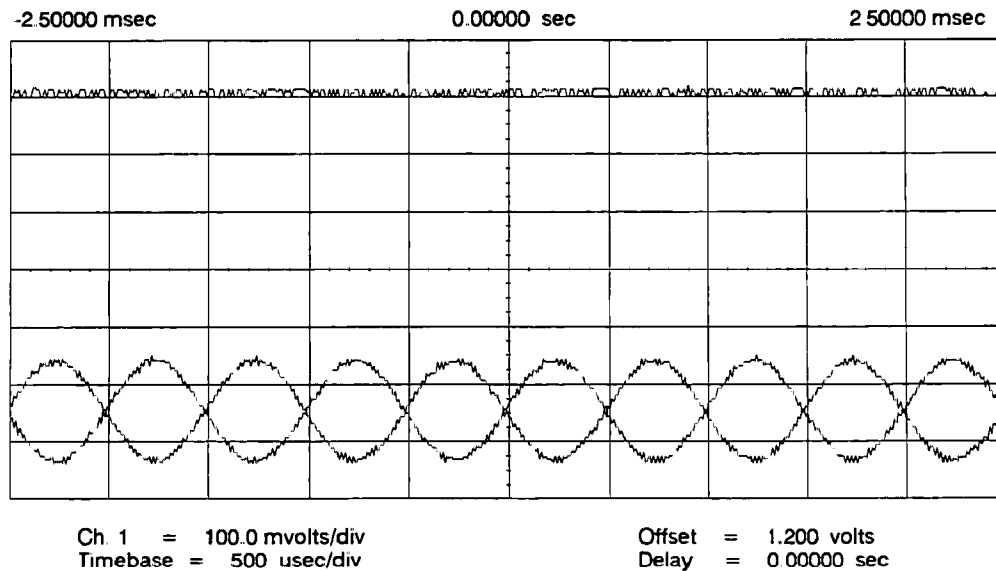
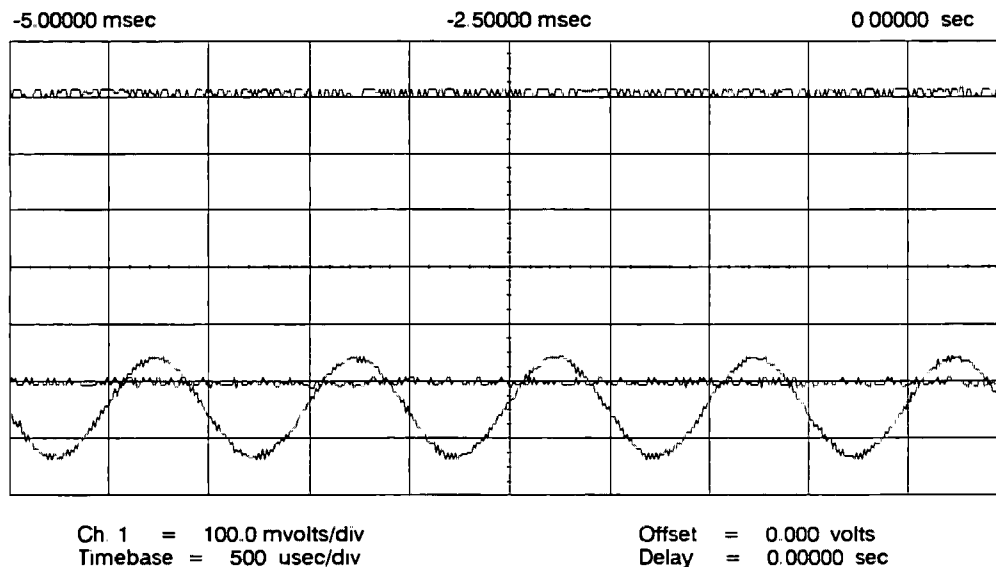

Figure 1-9. R431 and R405 Incorrectly Adjusted
Figure 1-10. R405 Incorrectly Adjusted
- a. If the oscilloscope display looks like figure 1-9, adjust A62 R431 for a flat “noisy” trace as shown in figure 1-10.
- b. If the oscilloscope display looks like figure 1-10, adjust A62 R405 to position the flat trace at the center of the sine wave trace as shown in figure 1-8.